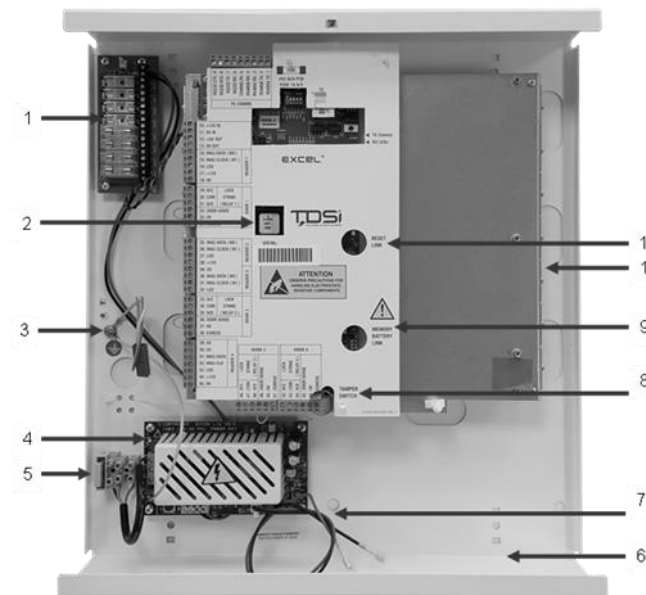

Figure 3 - Layout of EX-Series (EXcel⁴ Shown)
- The mains cable should be routed to use different entry/exit holes (4) in the case to those used for other connected equipment (e.g. readers, locks, network cables, inputs, outputs etc.)
- The mains input cable should be securely fastened to the case saddle (1) in position using a cable tie.
- The screen braid of the cables must be terminated to the earthing clamps (11) on the side of the chassis plate unless the peripheral is connected to ground. Any portion of the unscreened cable should be kept as short as possible and not be allowed to protrude into the area of the electronics (see figure 2 and figure 3)